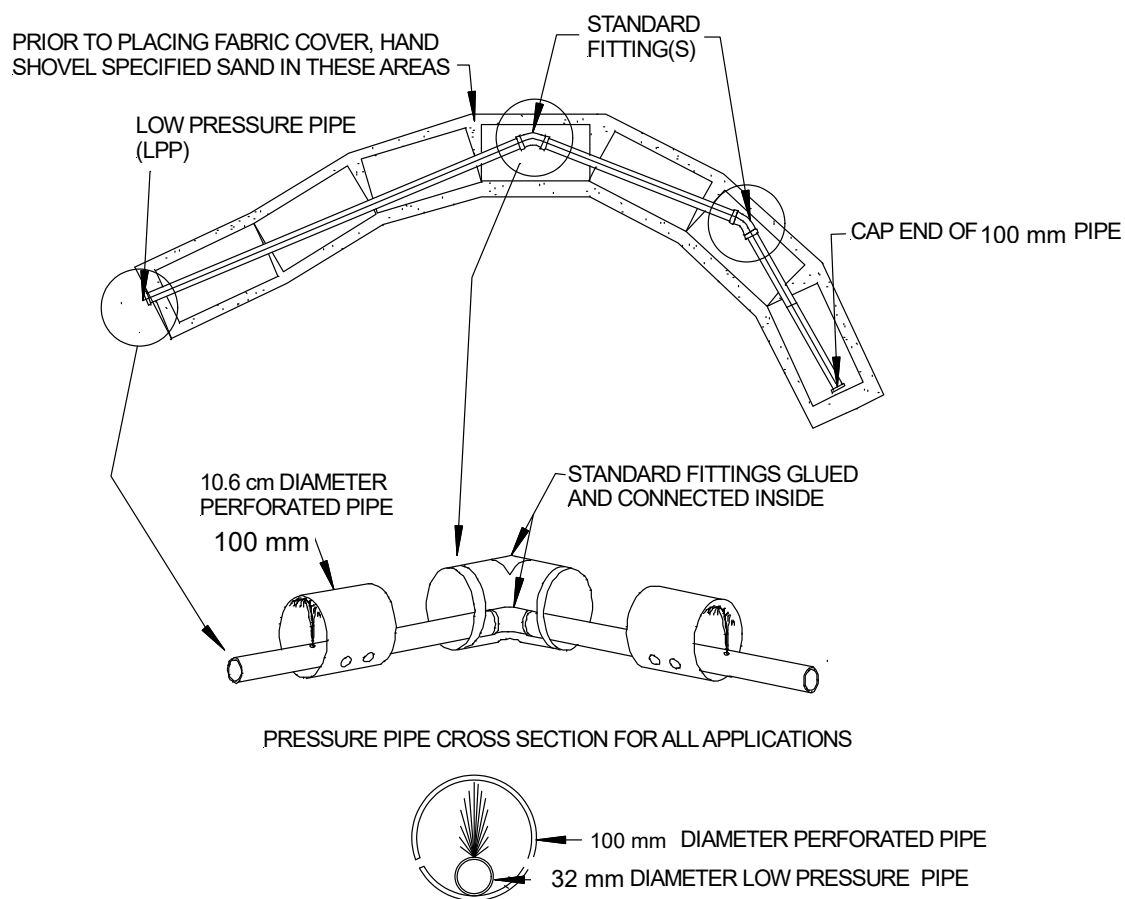

Figure 11: Pressure Distribution Lateral Layout
- Modules can be placed at an angle (from the horizontal plane) to follow site topographic contours (See Figure 11).